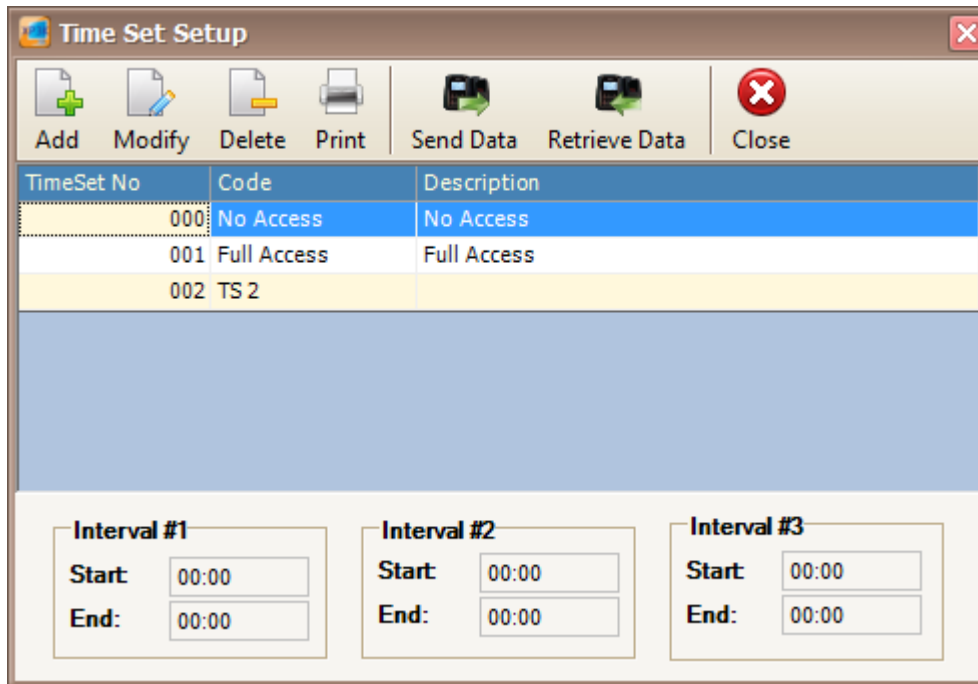

Figure 169 - Time Set Setup
2. The following window will be shown (Refer **Figure 169**).